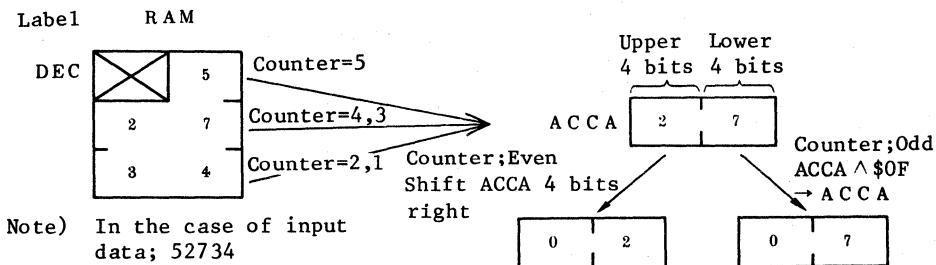

Fig. 2 Dividing 1-byte of RAM data into two parts
(5) Basic Operation
- (a) BCD consists of 2 operations; one is to fetch 5-digit BCD, digit by digit as shown in Fig. 2, the other is to convert fetched data into hexadecimal by 4 bits units.
(b) Fetching (see Fig. 2)